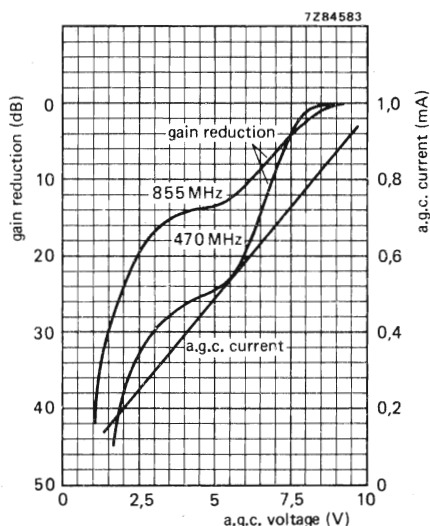

Fig. 5.
A.G.C. voltage (Fig. 5), at nominal gain	$+9,2 \pm 0,5\text{ V}$
A.G.C. current (Fig. 5)